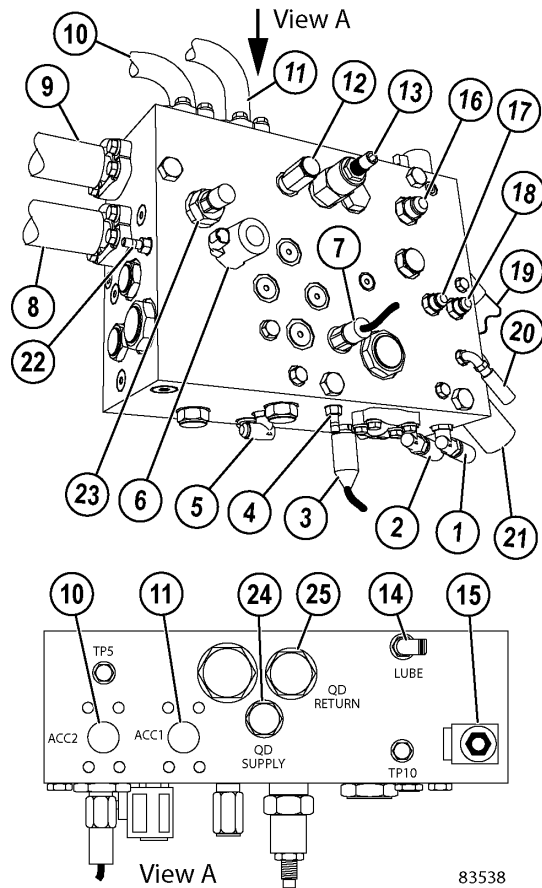

FIGURE 50-2. BLEED DOWN MANIFOLD
6. Disconnect the electrical leads from solenoids (6, Figure 50-2) and (15), pressure switch (7), and pressure sensors (3) and (23).
2. Unplug the hydraulic lines. Install new O-rings at the flange fittings and attach the hoses to the proper ports (See Figure 50-2). Tighten the connections securely.
3. Attach the electrical leads to solenoids (6, Figure 50-2) and (15), pressure switch (7), and pressure sensors (3) and (23). If the check valves or relief valves were removed, install new O-ring seals before installing them in the bleed down manifold.